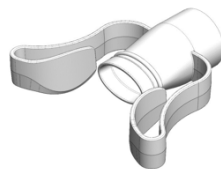

Figure 6 – Cheek Holder
- **Cheek Holder (REF RT4155):** this optional, single-use component (Figure 6) connects to the filter to support the patient's cheeks during oscillometry measurements, serving as an alternative to using their hands.